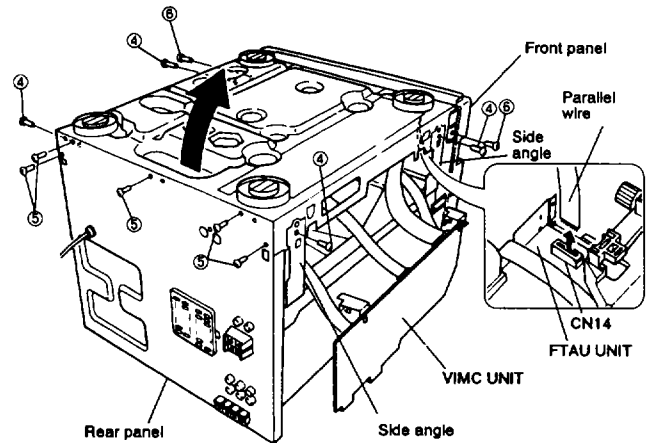
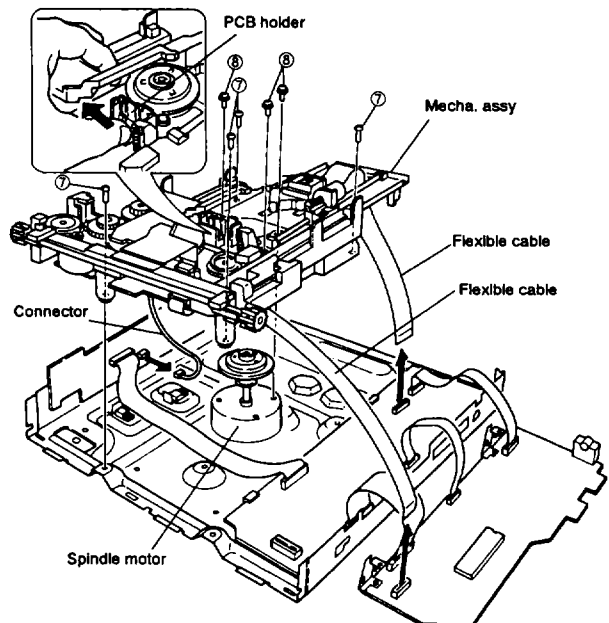

Fig. 7
Fig. 8
3. Turn over the player. (Fig. 7)
5. Remove four screws ④ of side angle, five screws ⑤ of rear panel and two screws ⑥ of front panel to remove the CLD section by lifting up from the rear side. At this time, if the parallel wire of CN14 of FTAU UNIT is pulled out, CLD section will be separated from the player.
6. Remove four screws ⑦, two flexible cables and a connector to remove the mecha. assy. (Fig. 8)
7. Remove the PCB holder by sliding it in the direction of arrow and remove three screws ⑧ to remove the spindle motor.